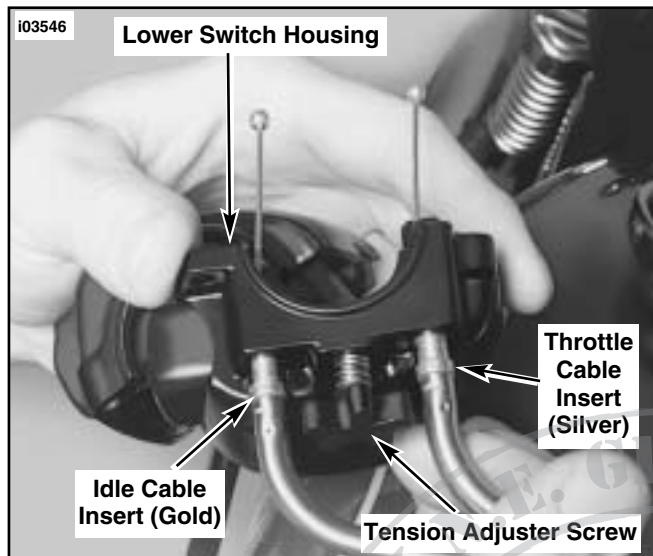

Figure 6. Upper Right Handlebar Switch Housing
16. See Figure 6. Pull the crimped inserts at the end of the throttle and idle control cable housings from the lower switch housing. For best results, use a rocking motion while pulling. Place a drop of light oil on the retaining rings, if necessary. Save inserts for re-installation.
22. Refer to Figure 6. Push the throttle and idle control cables into the lower switch housing until they snap into place. Perform the following: